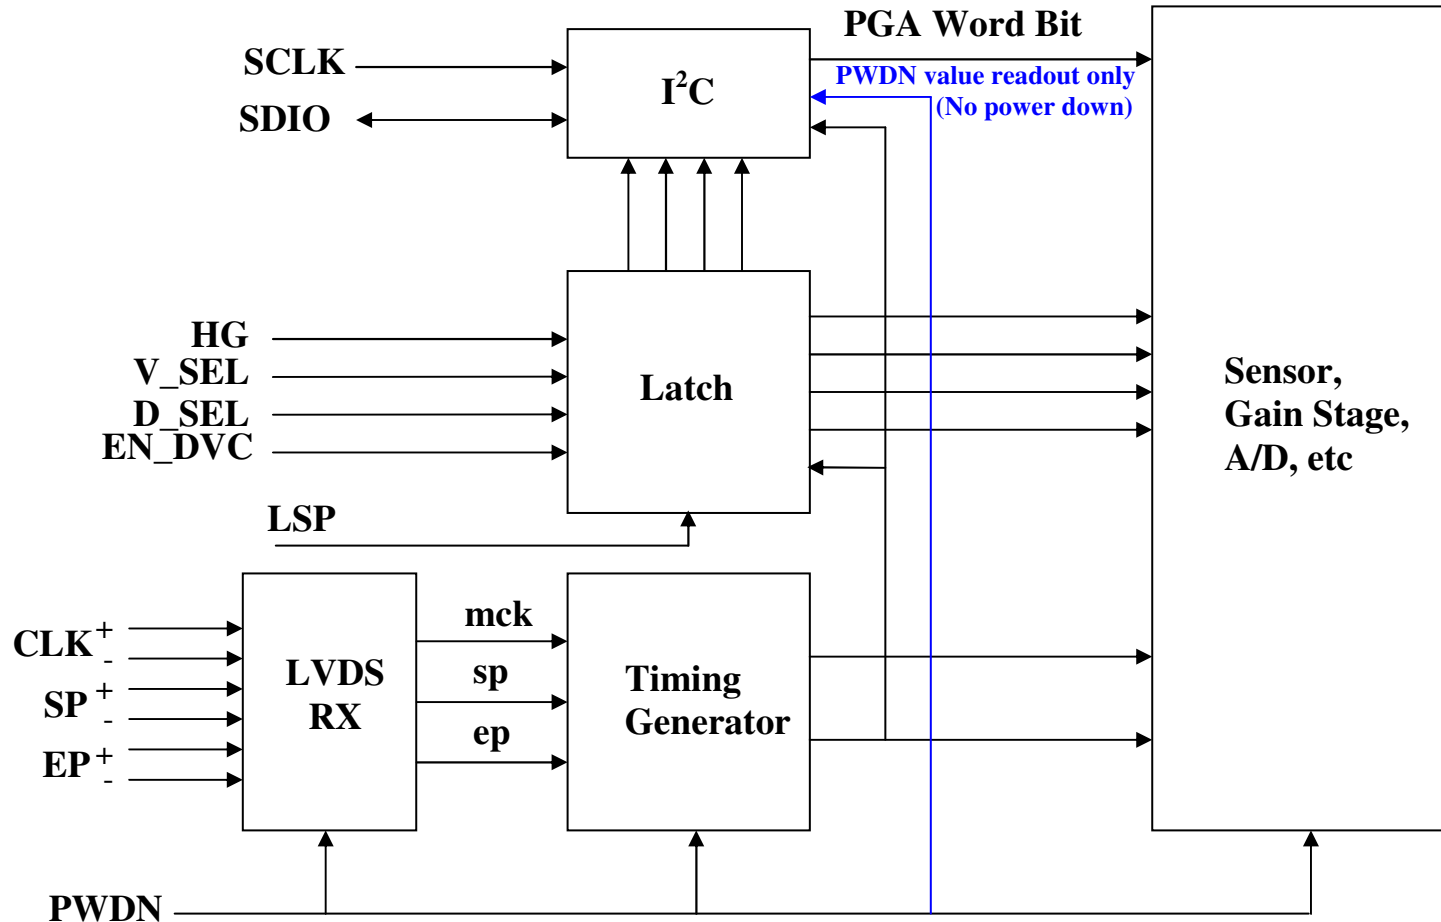

Figure 34. Data input block diagram
Figure 34 shows the block diagram of the data input control. It consists of (1) LVDS receiver block, (2) latch block, (3) I2C interface, (4) Timing generator. All of the timing to operate the device is generated from divided by 12 and timing generator block.